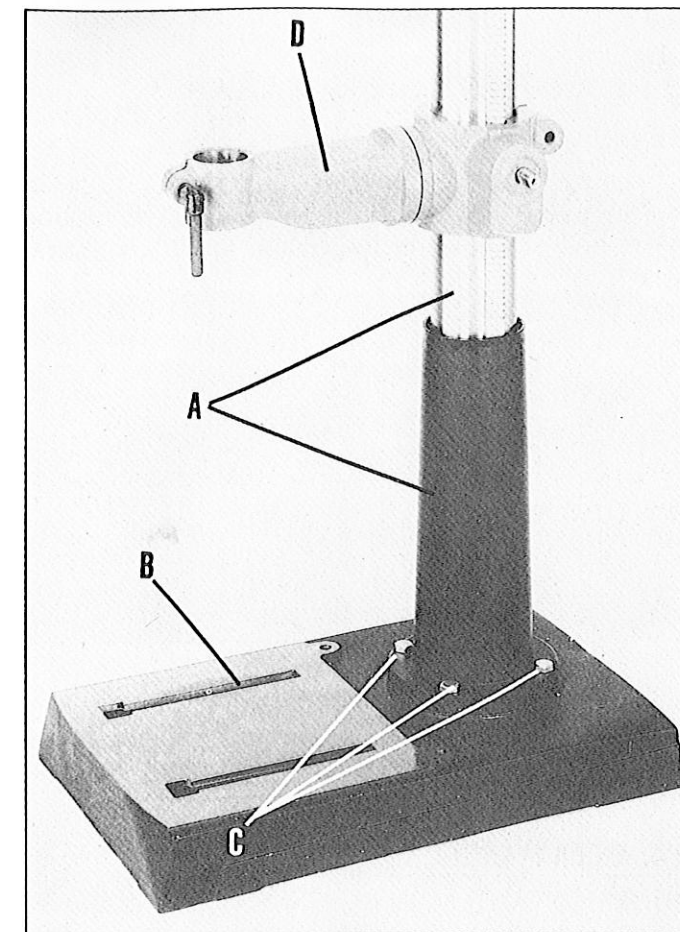

Fig 6
5. Assemble column (A) to the base (B) using the four screws (C), as shown in Fig. 6. Note: Table bracket (D) is shipped assembled to the column, as shown.